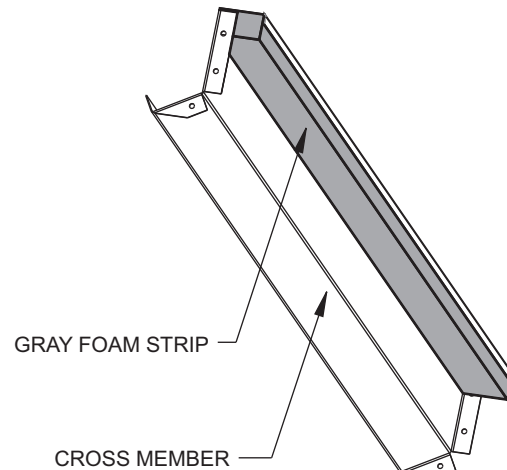

Fig. 24 — Adding Foam Strip to Cross Member
2. Add gray foam strip (provided) to cross members on bottom tray. See Fig. 24.